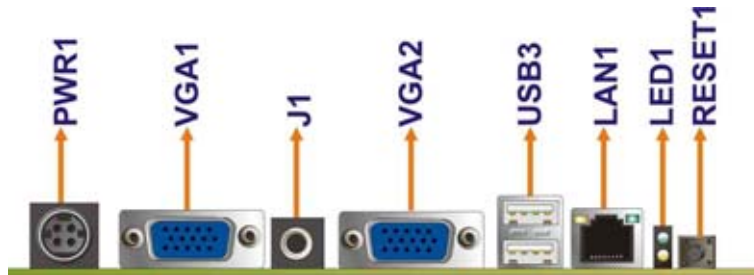

Figure 3-18: External Peripheral Interface Connector
- CN Location:** See **Figure 3-18**
CN Location: See **Figure 3-18**